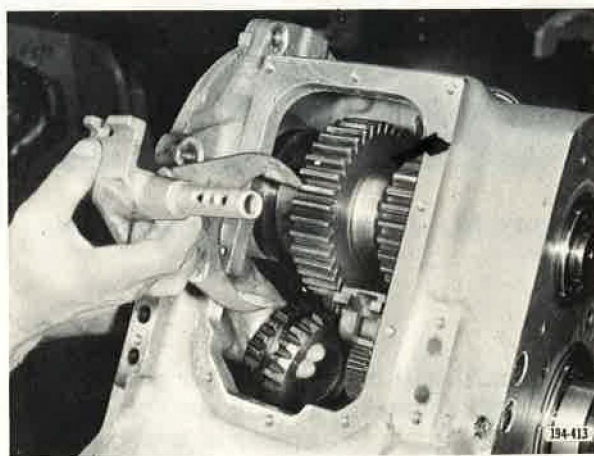

Figure 65. Installing Direct and Lo-Range Sliding Clutch and Shift Fork
10. Engage Direct-Lo-range shifter fork with groove provided in Direct-Lo sliding clutch as shown in Figure 65. Slide this assembly on rear mainshaft and at the same time allow the fork to enter its bore at the rear of case.